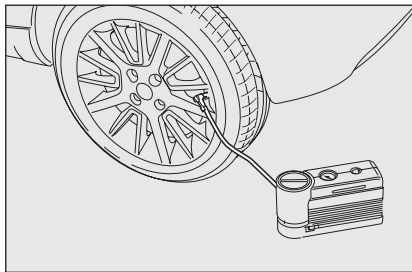
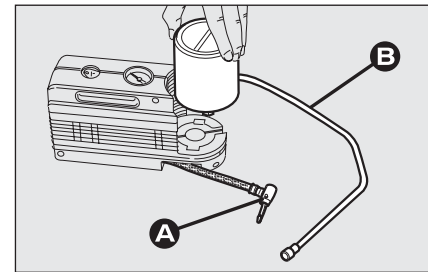

fig. 13
fig. 14
The compressor may also be used for restoring pressure only. Release coupling **A**-fig. 14 and connect directly to the tyre valve **fig. 13**. In this way, the cylinder will not be connected to the compressor and no sealant will be injected.
- release connection **A**-fig. 14;